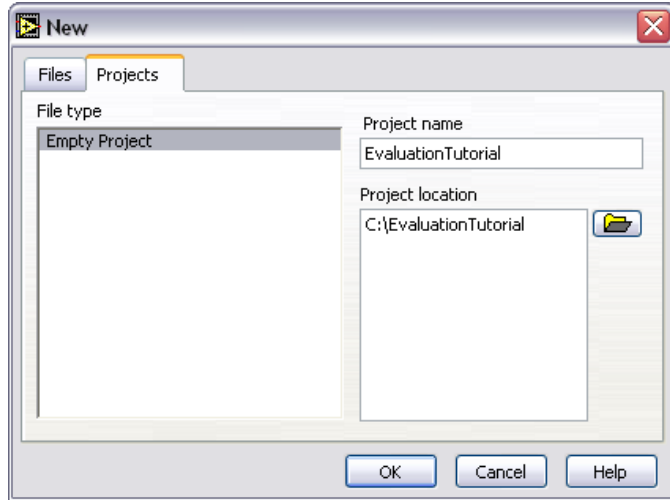

Figure 5. Creating the LabVIEW Embedded Project
4. Enter a path in the **Project location** path control or browse to the location where you want to save the LEP file as shown in Figure 5.